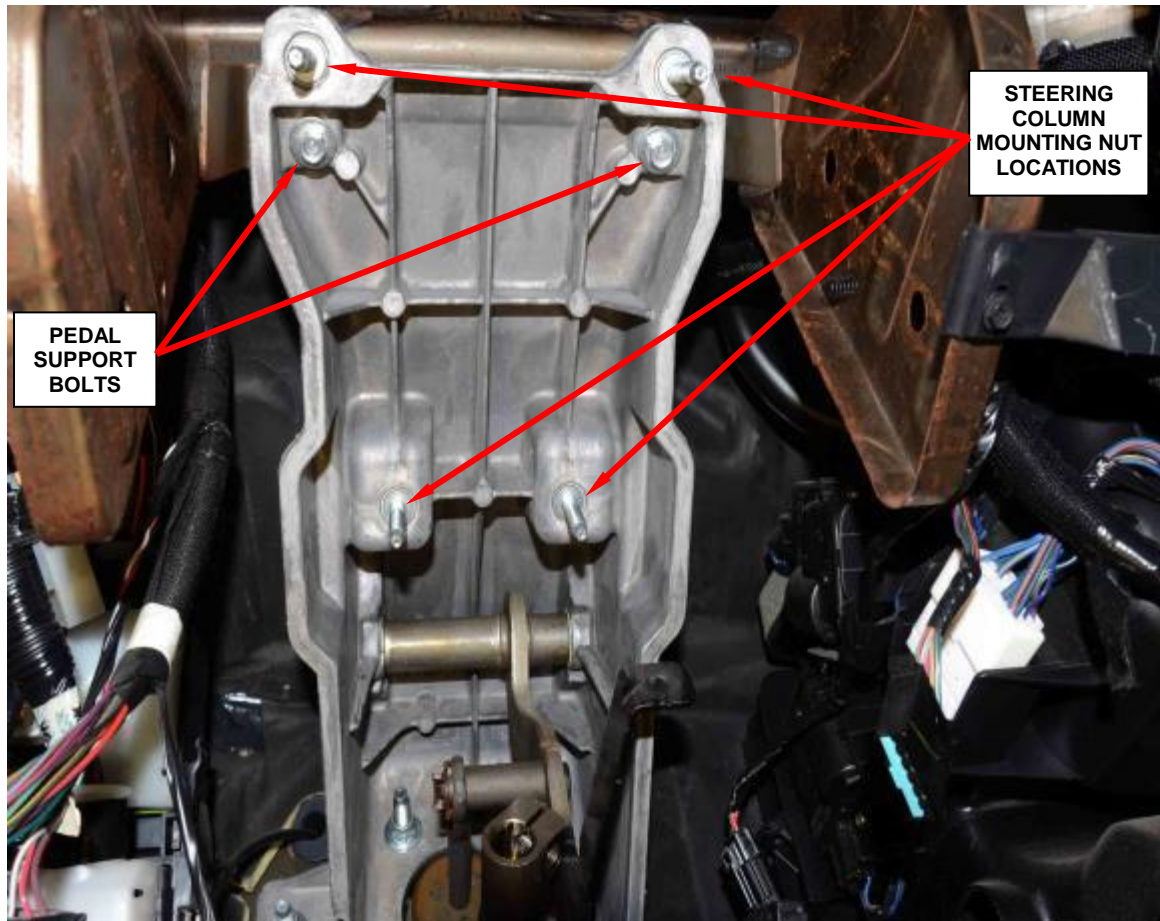

Figure 83 – Pedal Support Bolts
18. Remove the bolts from the pedal support (Figure 83).